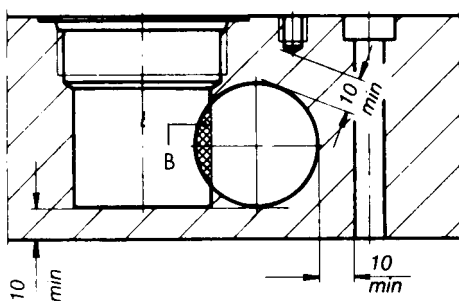

Fig. 12.2
- The area of intersection "B" (figure 12.2) should be at least 5% of the cross section of the largest channel, with a minimum area of 1.5 cm². Channel diameter must be a minimum of 6 mm.